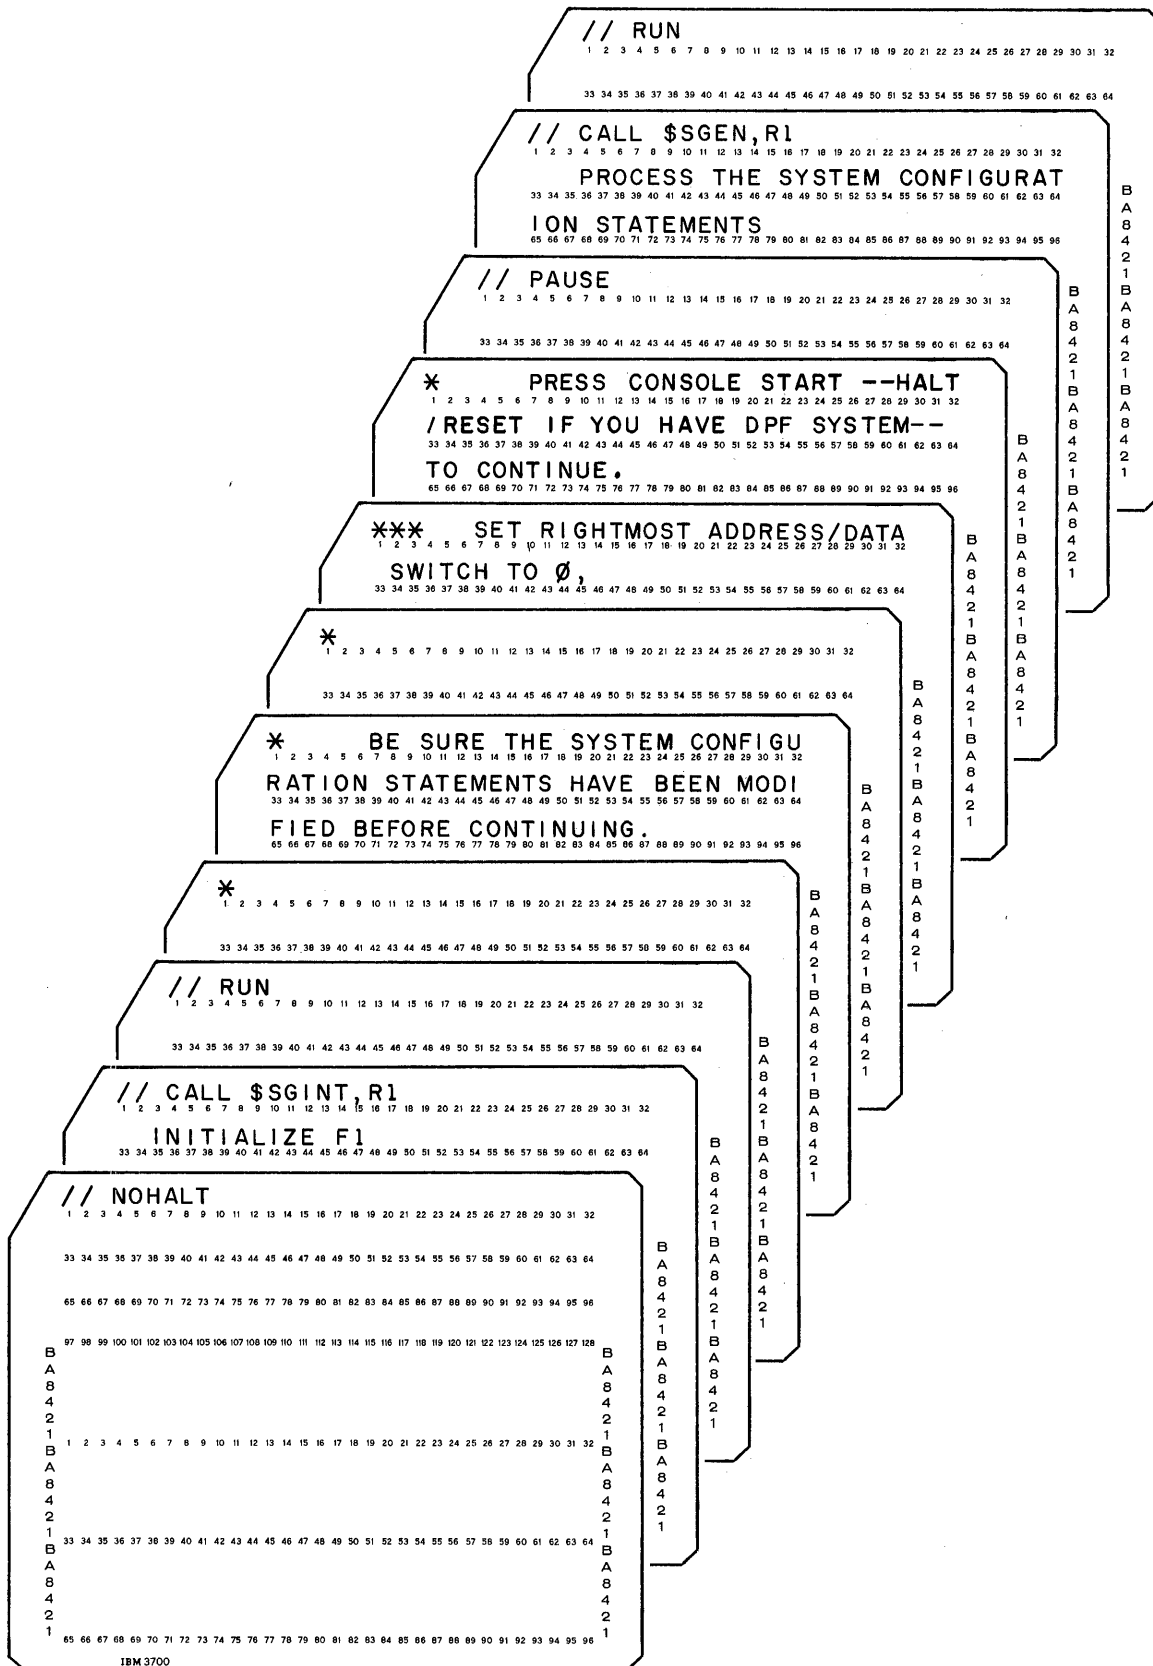

Figure 40. First Cards for System Generation
4. Remove cards shown in Figure 40 from deck of punched cards and place them in primary hopper of MFCU.